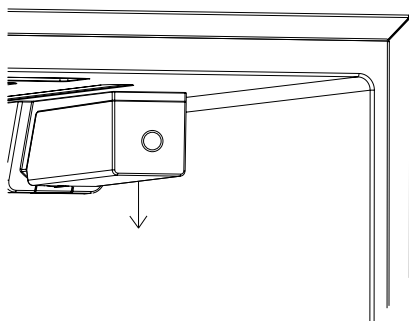

Figure 1
- Units are shipped with a water filter already installed for immediate use. To replace the filter, press in the button on the front of the filter cover and move the filter cover downward (*Figure 1*).